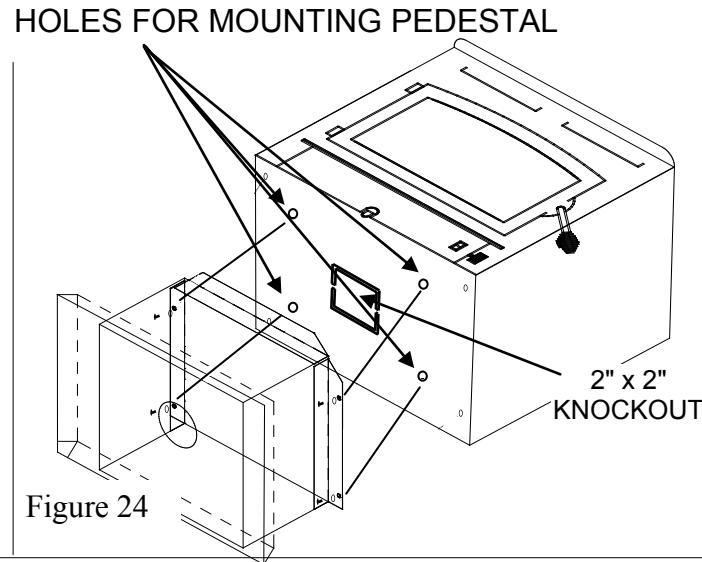

Figure 24
6. (**Pedestal Kit**): If pedestal kit is being used and out side air is required see below, *Out Side Air Installation*. Open freestanding kit and obtain stand. Place stand against bottom of heater (angle side to heater). Center stand front to back and also center stand left and right. Mark screw locations on bottom of stove through outer holes of stand mounting angles. Set stand aside and drill four 7/32" holes in heater bottom. Before attaching heater to the stand, take a large flat screwdriver or pliers and remove 2" x 2" knockout on bottom of unit. (See Figure 24).
7. Obtain four (4) 3/16" self-tapping screws and secure stand to heater. (See Figure 24).